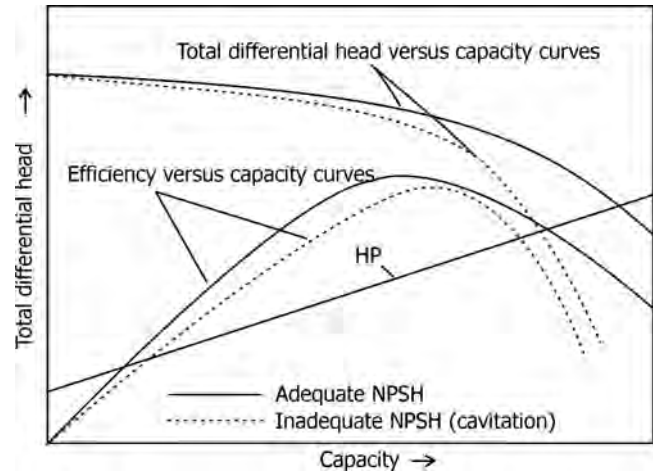

FIGURE 5.16 Pump performance curves.
- Figure 5.16 gives typical performance curves. The solid line curves represent condition of adequate $NPSH_A$ whereas the dotted lines represent condition of inadequate $NPSH_A$, that is, cavitation effect.
- What are the reasons of drop in head versus capacity curve (dotted lines in Figure 5.16) originally provided by the pump manufacturer?